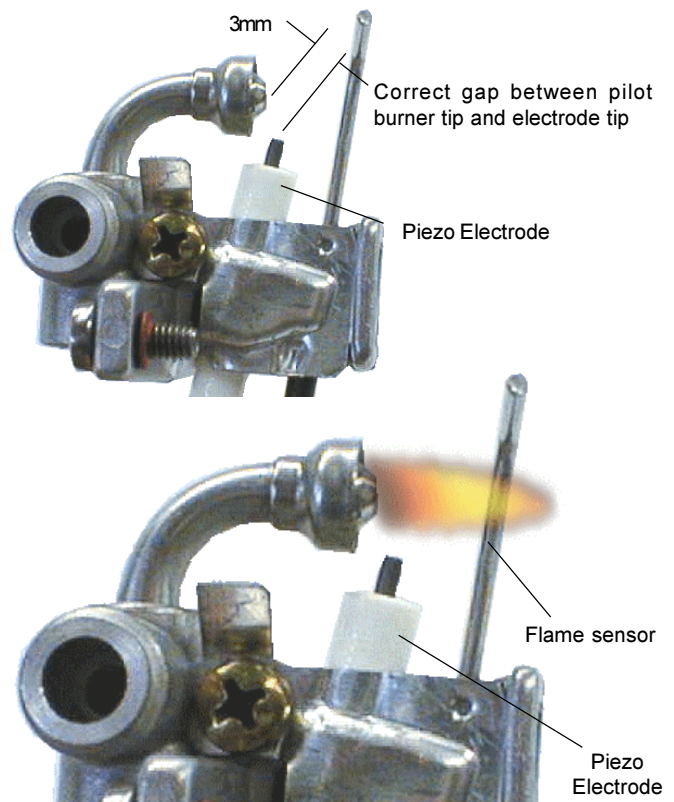

Fig. 13 - Characteristic Pilot Flame
Pilot Flame: The pilot flame should burn with a clean, sharp, blue flame and should resemble the diagram in Fig. 13. If the flame is soft and yellow, the pilot burner orifice may need to be cleaned or replaced. The pilot flame should be approximately 2 inches long, extending past the flame sensor. If the flame is too small, it will not reach the flame sensor and the burners will not come on.
1. Confirm the flame sensor is in its proper position. (see Fig. 13).